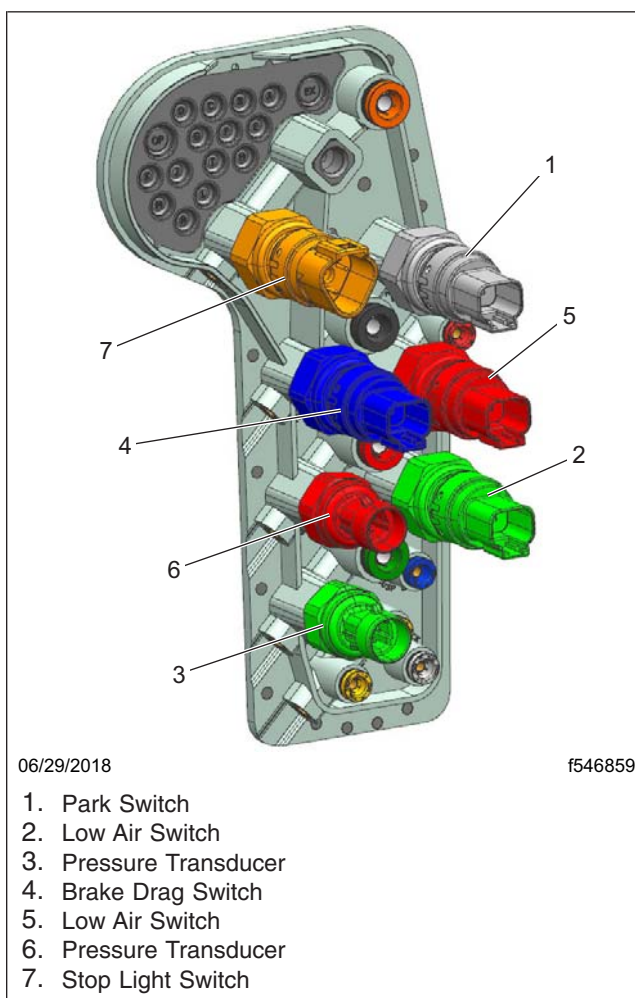

Fig. 5, Dash Pressure Switch Connector
3. Remove the air pressure switch. See Fig. 5, ref. 1.